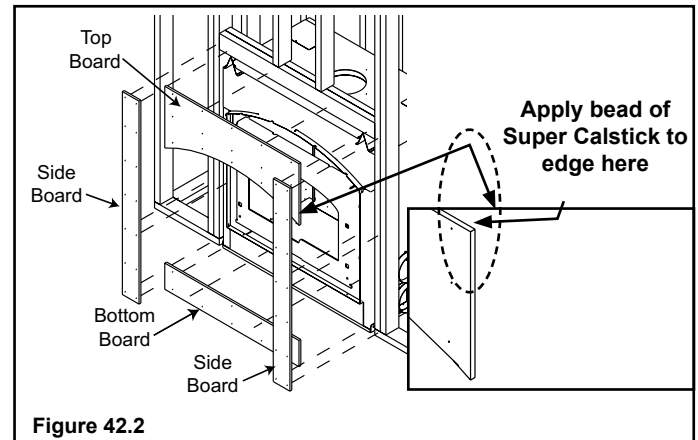

Figure 42.2
4. Using the Super Calstick, run a light bead (1/8 in. minimum) on the butt edges of the top board. See Figure 42.2.